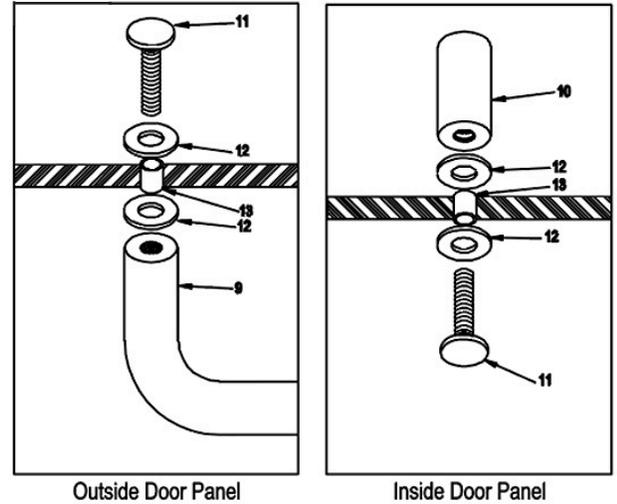

FIGURE 3
10. Close panels and adjust to align the vertical edge of panels 180 degree post. Using a 1/4" box-end wrench, loosen the screws on the rollers, but don't remove completely. When screws are loose, adjust panel by sliding the screw are loose be sure to support panel so it does not fall and break. Adjust inside panel by sliding the screw in the slot. NOTE: When screws are loose be sure to support panel so it does not fall and break. Adjust the inside slider as low as possible to reduce the gap between bottom of slider and sill taking care that the glass does not drag on the sill (6) or center guide (7). Adjust for bowed glass by using the slotted hole in the jamb. Secure bumpers (4) to the jambs using 6-32 x 1/2" screws (5).
11. To install towel bar (9), place nylon towel bar insert sleeves (13) into holes in the glass (17). Next hold the tubular towel bar (9) against the hole in the glass with the nylon towel bar/pull screw (12) between the glass and the towel bar. Place a nylon towel bar/pull washer on the towel bar/pull screw (11) and secure towel bar in place on both ends. Install the pull the same way the towel bar was installed. Use hole in fastener to tighten (See Figure 3).